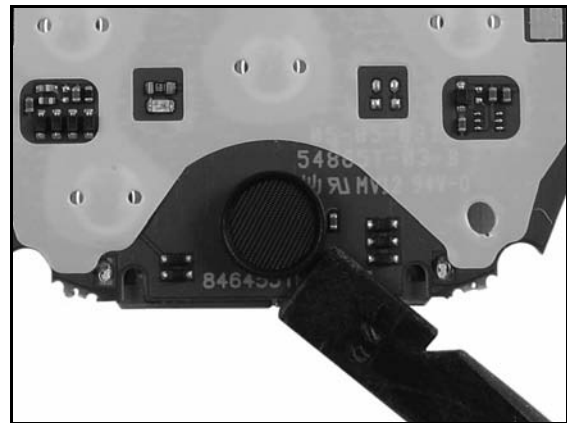

Figure 7-8.
2. Remove microphone seal by inserting point of black stick under seal skirt and gently prying up on seal perimeter. Do not push or touch microphone (see Figure 7-8).